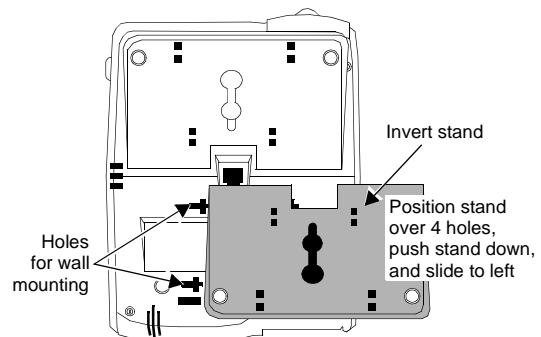

Figure 6. Installing the Stand for Wall Mounting
6. Slide the reversed base onto the telephone, to the right, until it snaps into place. See Figure 6.